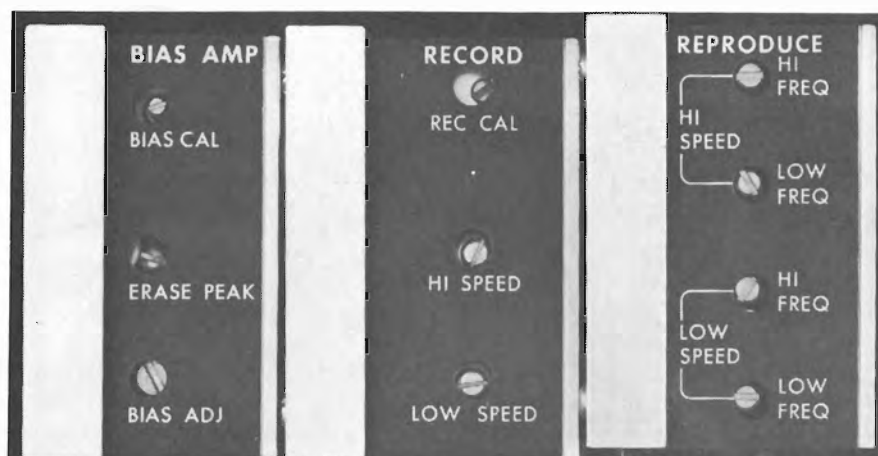

Figure 2-5. Bias, Record, and Reproduce Modules
5. Plug-in assemblies (Figure 2-5) of record/reproduce unit(s). Check that the bias amplifier, record amplifier, and reproduce amplifier modules are firmly seated in their connectors.